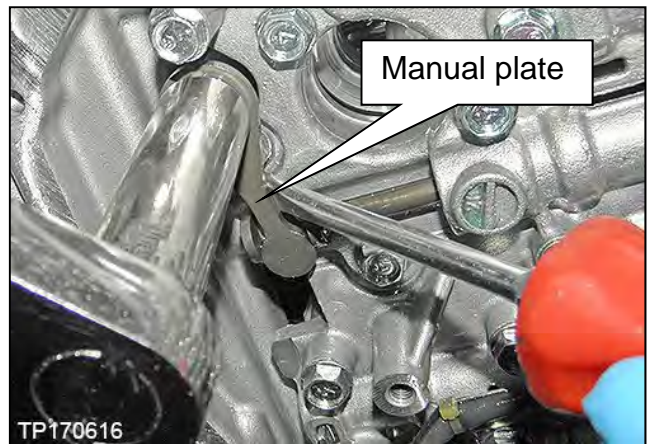

Figure 25
- Use a screwdriver to hold the manual plate (Figure 25) to keep the shaft from rotating while removing the nut.